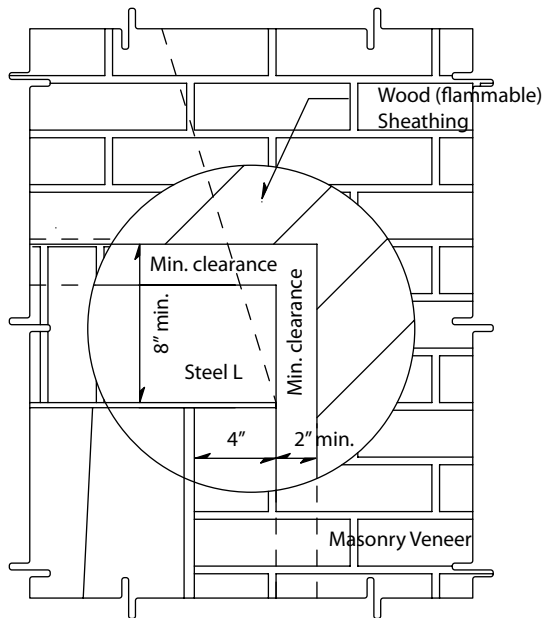

Figure 32
A steel “L” (maximum four inch (4”) x six inch (6”)) will need to span the top of the finished fireplace opening to carry the full masonry veneer over the IBV firebox opening. (Figure 32 & 33)
This steel “L” should have about four inch (4”) end bearing. This bearing surface shall be provided in the veneer work. (Figure 32)
1. The vertical leg of the steel “L” cannot exceed six inches (6”). (Figure 32)